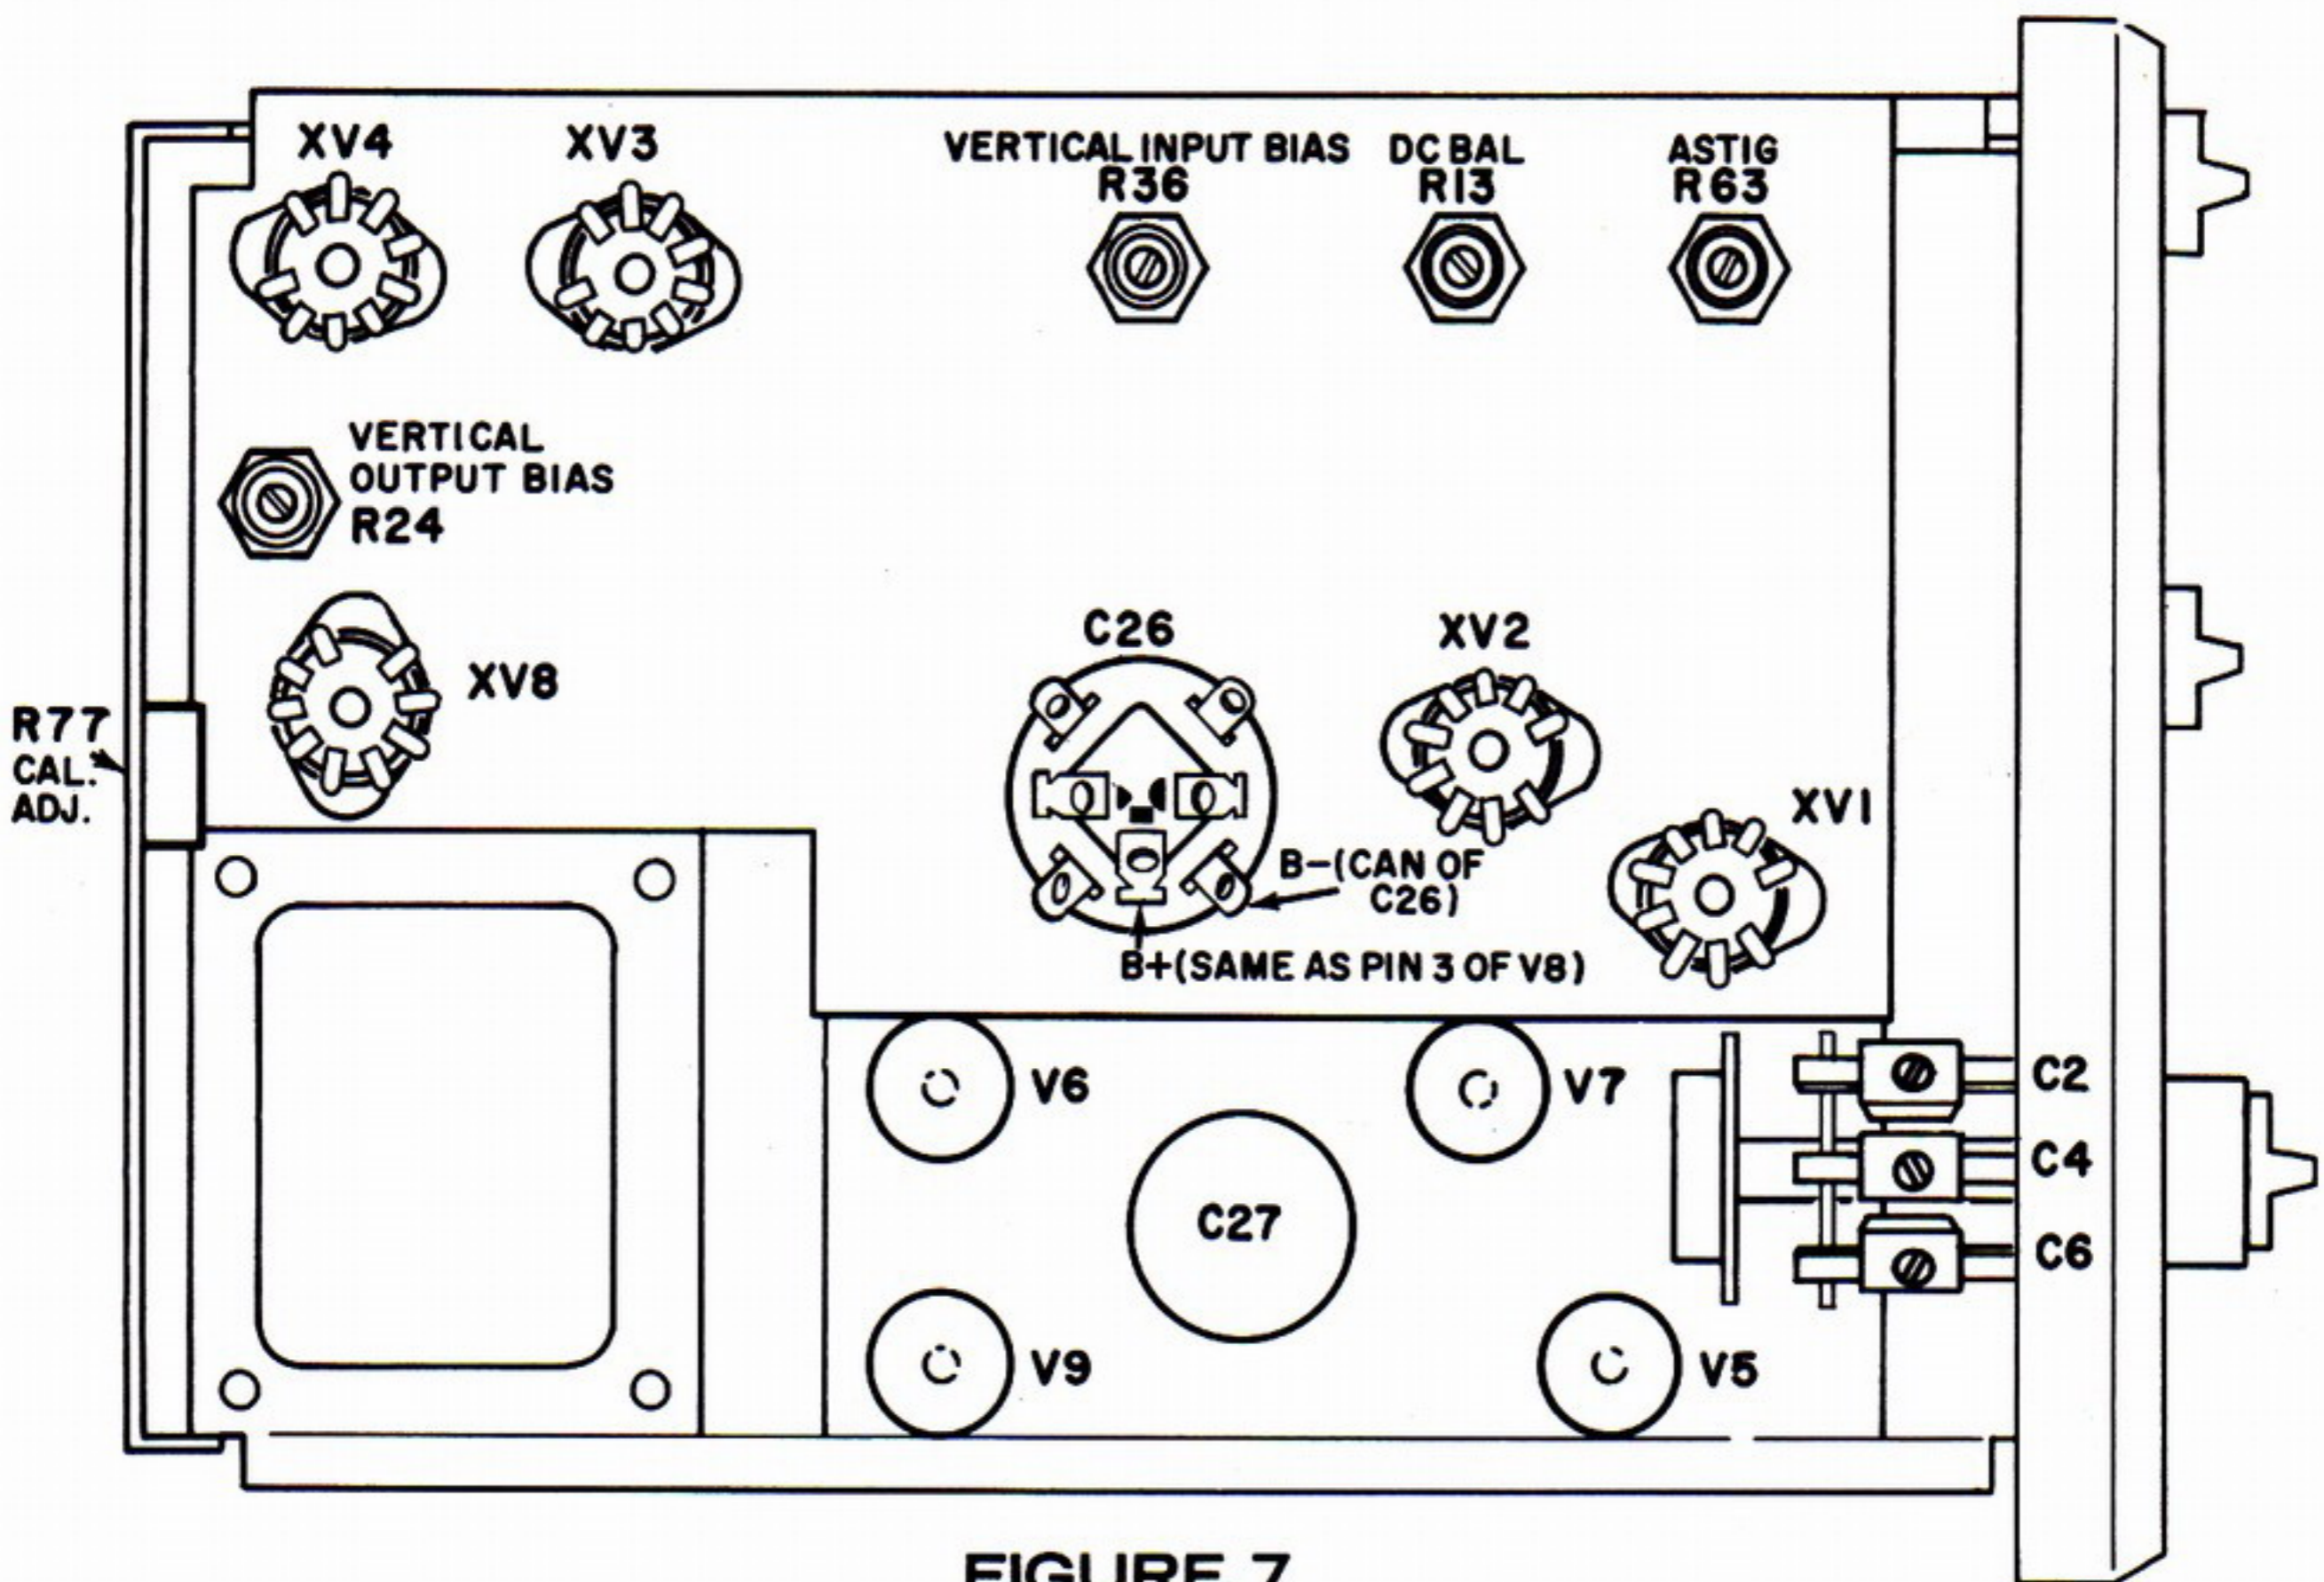

FIGURE 7
b. Adjust panel controls for a stationary pattern of several line frequency square waves. Adjust R77 (Fig. 7) temporarily for a pattern height of 3 or 4 cm. Adjust the HOR. GAIN control for a pattern width of 4 to 5 cm. Make a preliminary adjustment for the sharpness of the trace with the FOCUS control. Then set the INTENSITY control to produce a trace of normal brightness (excessive intensity will be evidenced by "blooming" of the trace). At this point, any astigmatism in the trace will be evidenced by some portions of the trace being thicker than others. Now jointly adjust the astigmatism control R63 (Fig. 7) and the FOCUS control until a sharp trace with the greatest possible uniformity of thickness is obtained.
b. Connect a VTVM from pin 6 of either tube V1 or V2 (Fig. 7) to ground. Adjust vertical input bias potentiometer R36 (Fig. 7) for a dc bias reading of 2.5 volts.
c. Unsolder and temporarily disconnect 1.8K Ω , 5W Resistor, R23 from pin 1 of tube XV4 (Fig. 7). Connect a VOM, set to a DC current range suitable for measuring 50mA, between pin 1 of XV4 and the unsoldered end of resistor R23. Adjust VERTICAL OUTPUT BIAS potentiometer R24 for a DC current reading of 50mA.
e. Set the VERT. GAIN control fully counter-clockwise (minimum gain). Adjust the VERT. POS. control for a trace exactly on the horizontal center line of the calibration grid. Now turn the VERT. GAIN control fully clockwise (maximum gain), and adjust the DC balance R13 (Fig. 7) until the trace is returned exactly to the horizontal center line. Repeat until no vertical shift can be detected when the VERT. GAIN control is turned from minimum to maximum. It is advisable to repeat this procedure finally, after the 'scope has warmed up for at least a half hour.
a. Stray capacities shunting the resistive components in each of the vertical input attenuator networks would result in frequency discrimination, were not each of these attenuator networks frequency-compensated by an individual trimmer. These trimmers are located in Fig. 7. The trimmers for the 10, 100, 1000 positions of the VERT. ATTENUATOR switch are C6, C4, and C2, respectively.
a. The calibration voltage is adjusted with rheostat R77, located in Fig. 7. If the DC balance is not properly adjusted (trace shifts vertically as VERT. GAIN control is turned from minimum to maximum), adjust it beforehand as described in 4-4e. Keep the VERT. GAIN control at maximum position.
Tube location is shown in Figs. 7 & 8. Readjustment will be required, as described in 4-4, when replacing V1, V2, V3, or V4. When the CRT is replaced, it must be rotated until the horizontal trace is level.